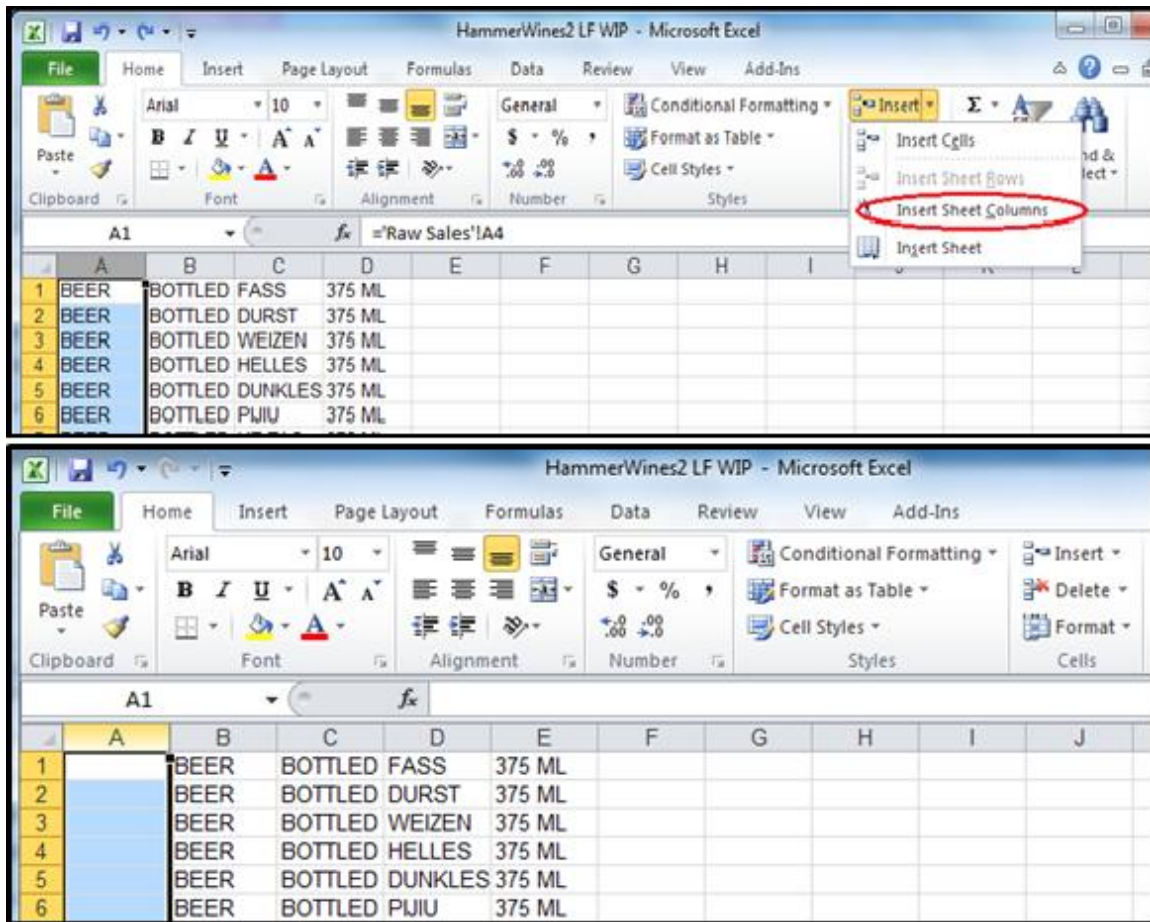

Figure 2 - Insert Sheet Columns
- Click in the cell heading column A. Select the **Home** ribbon, **Cells** section, **Insert, Insert Sheet Columns** (see Figure 2).